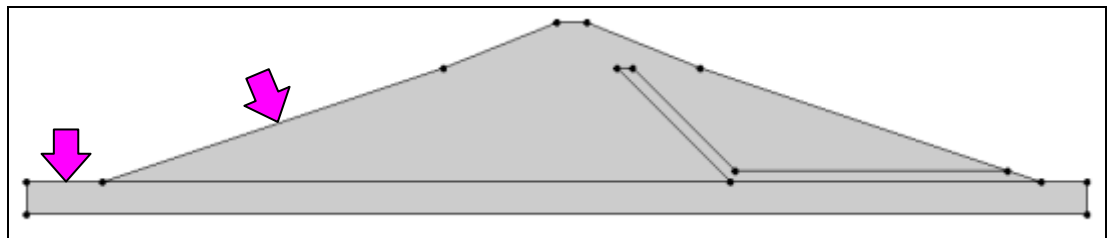

Figure 3 Assigning the head arcs
2. Double-click on one of the arcs on the upstream (left) side of the dam, as shown in the Figure 3 below.